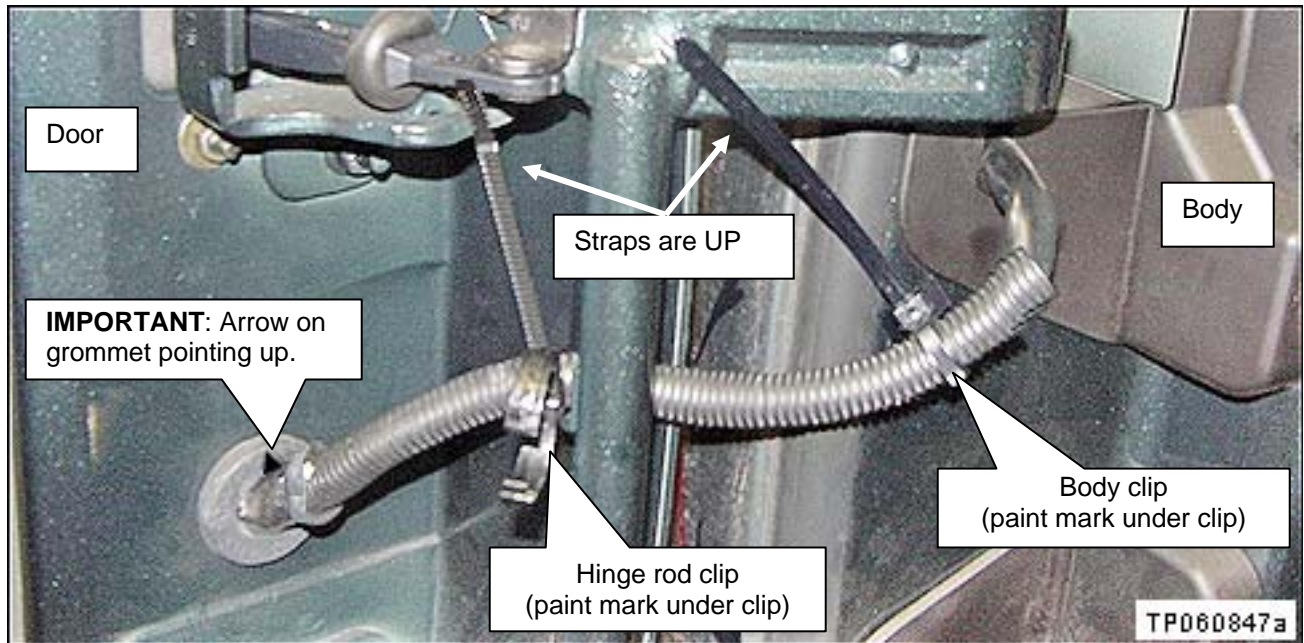

Figure B7
10. Install the new body clip over the paint mark on the body-side (see Figure B7).
- Feed the strap through the buckle so the strap is UP as shown in Figure B7.
11. Install the new hinge rod clip over the center paint mark (see Figure B7).
13. IMPORTANT: Make sure the arrow on the grommet is pointing UP, as shown in Figure B7 and B8
IMPORTANT: Before taping, make sure the arrow on the grommet is pointing UP, as shown in Figure B7 and B8 on the previous page.
19. Make sure the arrow on the grommet is pointing UP (Figures B7 and B8, page 11).